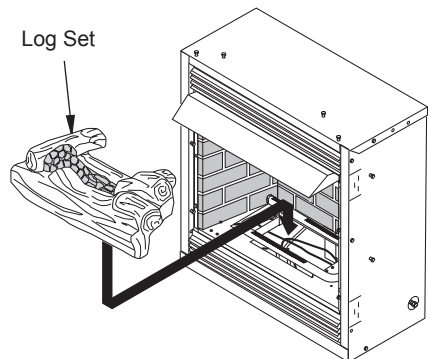

Figure 38 - Installing Log
4. Remove log packaging material and discard. Gently place log over burner (see Figure 38). (Do not allow log to contact flame as this will create sooting.)